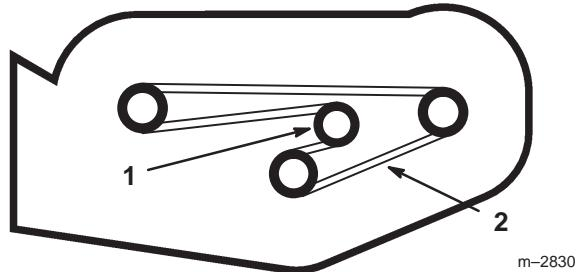

Figure 32
3. Push on the idler to release the tension and remove the belt from the pulleys (Fig. 32).
1. Install the new belt around the blade pulleys and the idler pulley (Fig. 32). The rear discharge model will have the same belt routing.